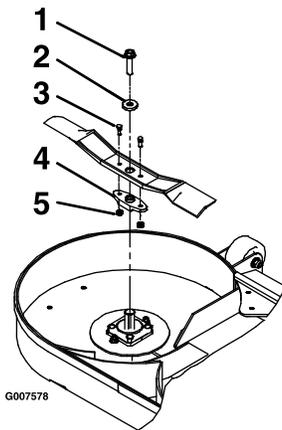

Figure 74
3. Remove the blade, washer, and blade bolt that secures the blade and blade driver (Figure 74).
4. Remove the blade driver from the existing blade (Figure 74).
1. Install the blade driver to the new blades with the shear bolts and locknuts (Figure 74).
3. Install the blade, washer, and blade bolt to the spindle shaft (Figure 74).